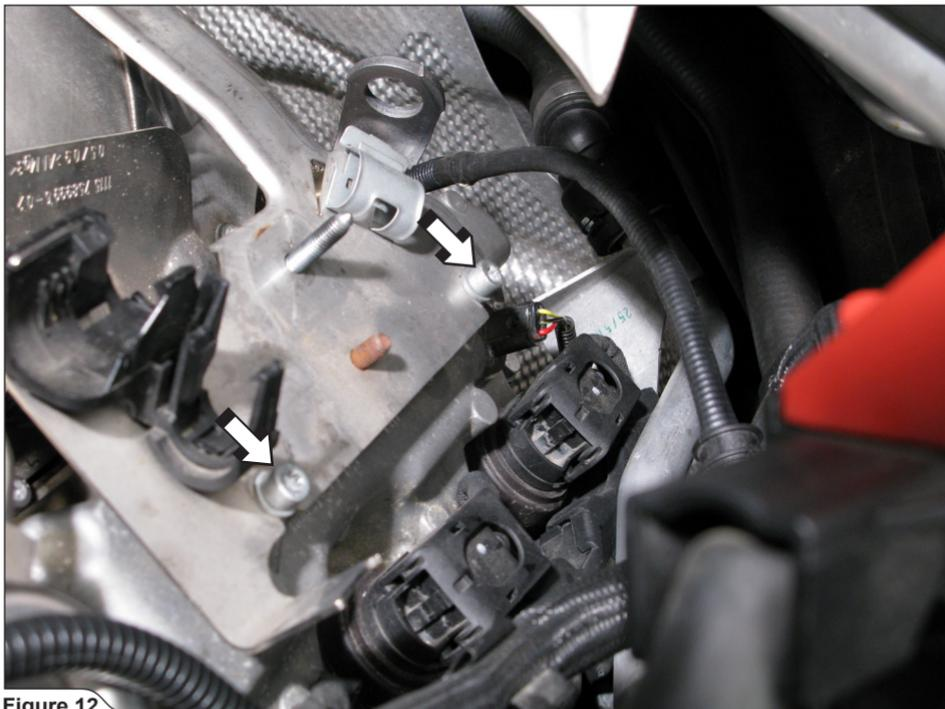

Figure 12
12. **For optional Down Pipes only:** loosen marked bolts on both sides of the engine and remove lambda cables and vacuum hoses bracket (**Figure 12**).